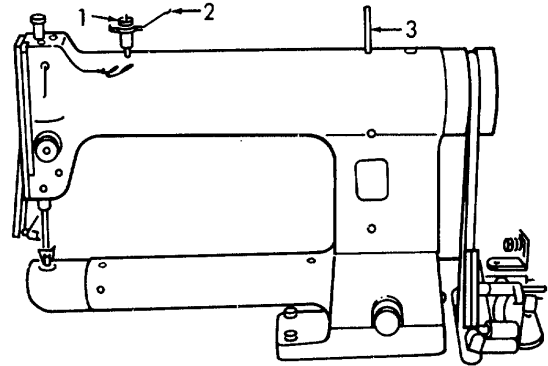

Figure 6-85. Needle Thread Guide, Removal.
a. *Removal (Refer to Figures 6-85 and 6-86).*
(1) Refer to Figure 6-85. Pull press-fit pin (1) straight up.
(2) Remove needle thread guide assembly (2).
(3) Remove post (3).